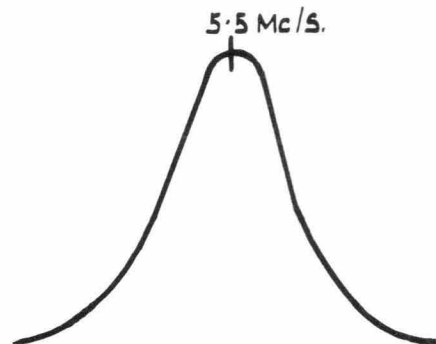

Fig. 13.
4. Connect the sweep generator to the grid (pin 2) of the 4th IF Amplifier tube V6 and the oscilloscope to observe the response at test point TP3. With the generator set to give a sweep width of approx. 1 megacycle per second, the ideal response curve is shown in Fig. 13. and shows symmetry about the 5.5 Mc/s marker.